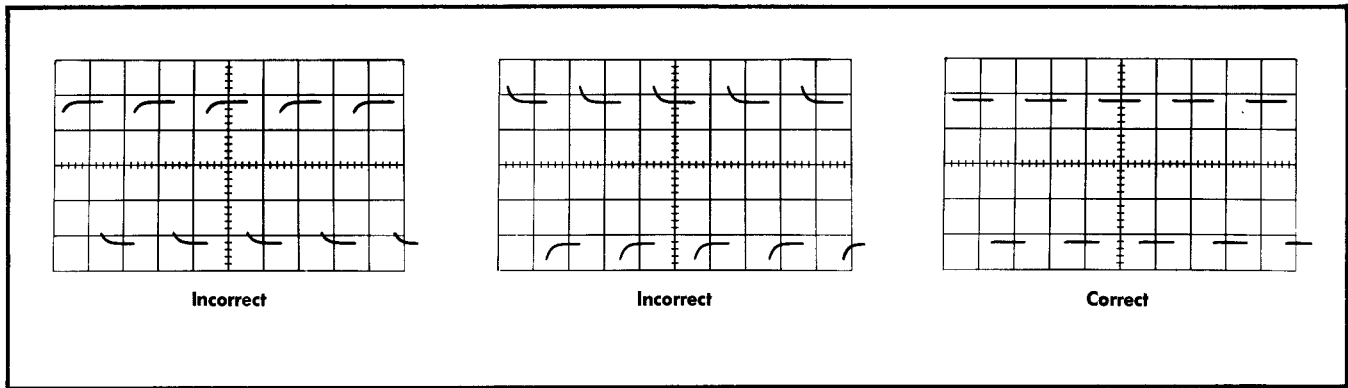

Fig. 2-4. Probe compensation waveforms using a 1-kc calibrator signal.
4. Adjust the probe compensation for best square-wave response as shown in the right-hand picture of Fig. 2-4.